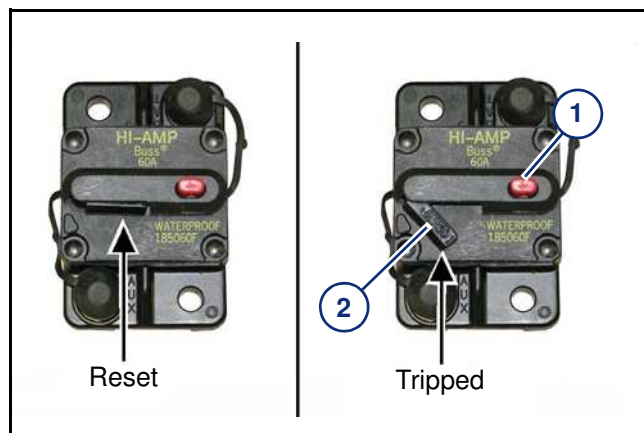

Figure 13
**[Figure 13]** - A circuit breaker is located near the battery or in the battery box. The 60 A circuit breaker has an automatic/manual trip button (1) and a manual reset lever (2).